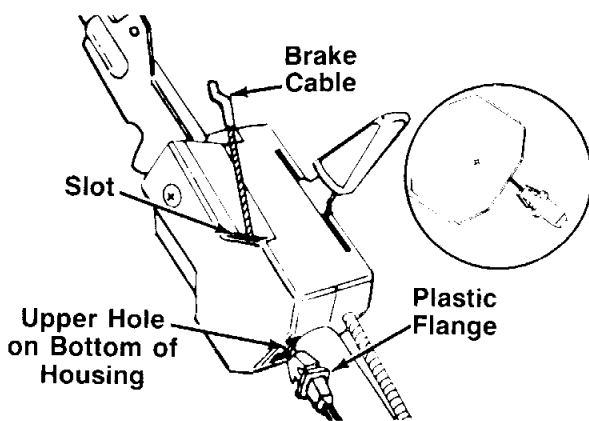

FIGURE 5.
2. Place end of cable into the upper hole on the bottom of the control housing, and through the slot as shown. The angle of the plastic flange must be positioned downward as shown in figure 5. Be careful not to bend or kink the cable at any time.